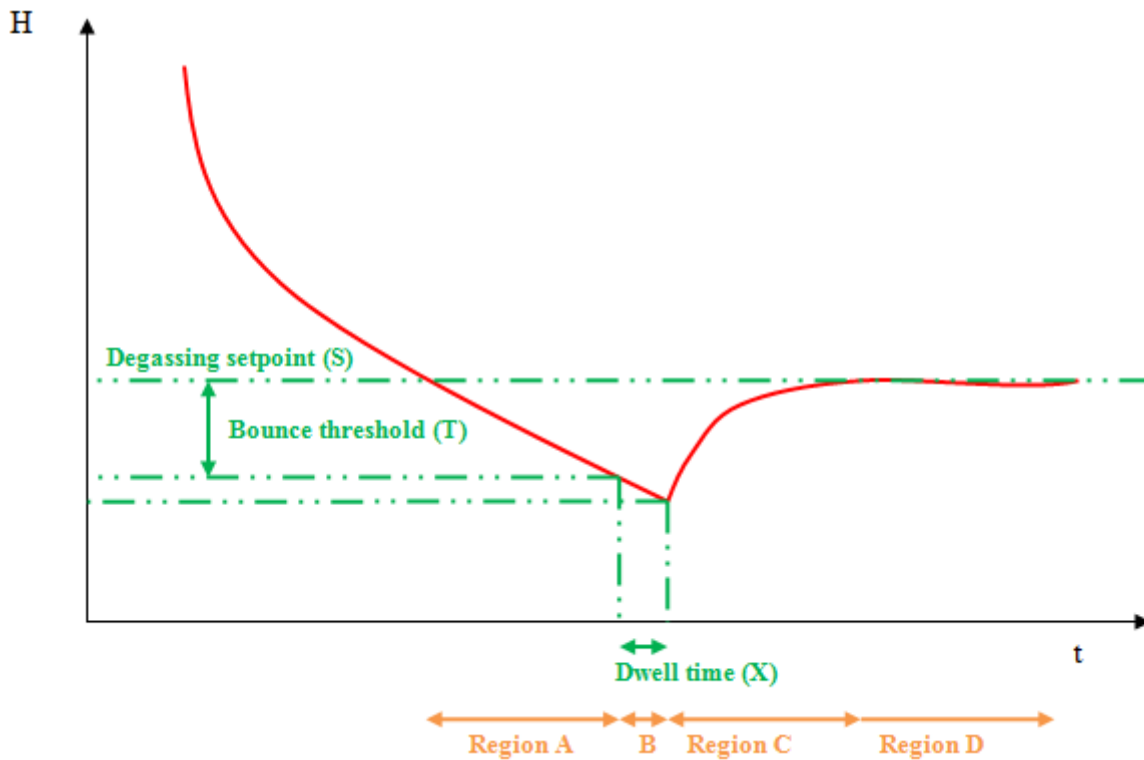

Figure 49: Hydrogen alarm strategy
Please refer to Figure 49 and Table 11. The alarm relay will activate if hydrogen is less than or equal to (S-T) for X seconds (relay will close). When hydrogen is greater than or equal to setpoint (S), the alarm will deactivate (relay will open)